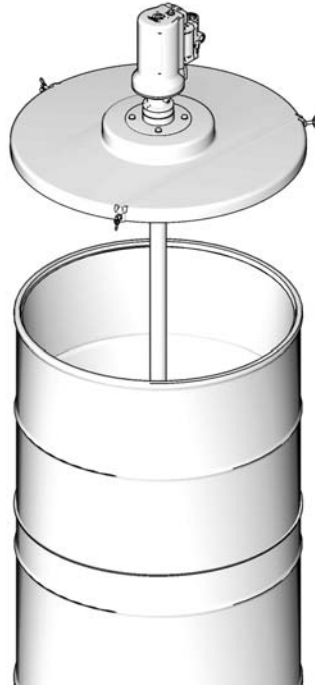

FIG. 9
7. Insert pump drop tube through center of rubber grommet in follow plate (FIG. 9).